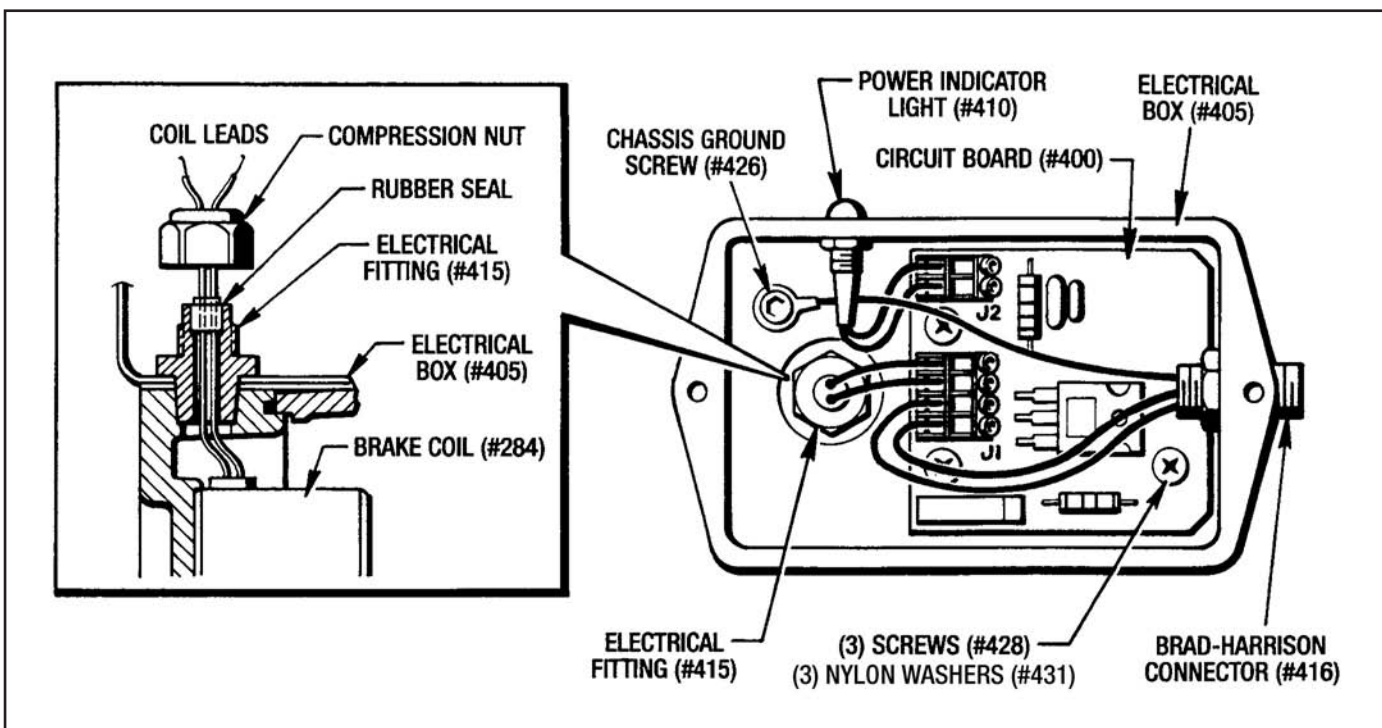

Figure 7.5 - Electric Box With Cover Removed
(See Figure 7.5 and 8. 1)
3. Dis-connect the coil leads from J1 terminal strip located on the Circuit Board (#400). Also remove the compression nut from the Electrical Fitting (#415) and pry the rubber seal out of the fitting and off of the coil leads. (See Figure 7.5.)
3. Attach the Coil (#284) with (1) Lockwasher (#275) and (1) Screw (#153). Make sure that the coil wires are at the top of the brake. Torque to **60 Lb. Ft.**
4. Place the rubber seal on the coil leads and pull the wires through, taking up all the slack in the wires. Seat the rubber seal into the threaded part of the Electrical Fitting (#415). Tighten down the compression nut. (See Figure 7.5)
(See Figures 7.5, 7.7, 8.3 or 8.4)
3. Disconnect the coil leads from J1 terminal strip located on the Circuit Board (#400). Also remove the compression nut from the Electrical Fitting (#415) and pry the rubber seal out of the fitting and off of the coil leads. (See Figure 7.5)